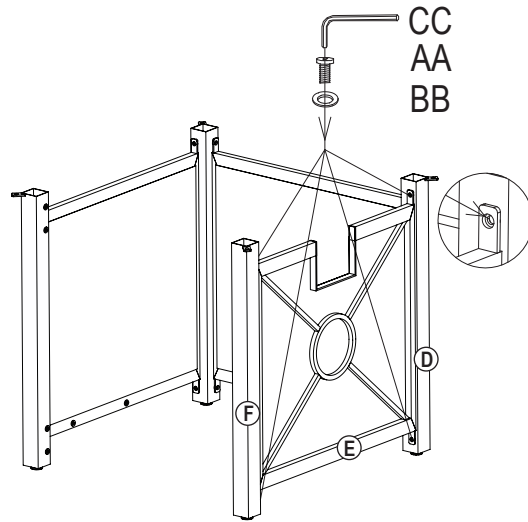

Figure 4
4. Attach right panel (E) to front-right Leg (F) and back-right leg (D) with bolt (AA) and washer (BB) using hex screw driver (CC), (see Figure 4).